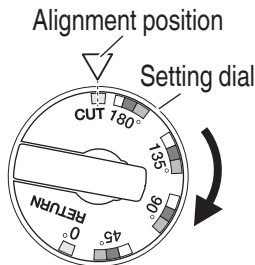

Fig. 30
- (1) Position the setting dial in the “CUT” position. (Fig. 30)
- (2) Set the rebar to be cut above the lower cutter